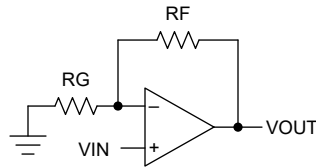
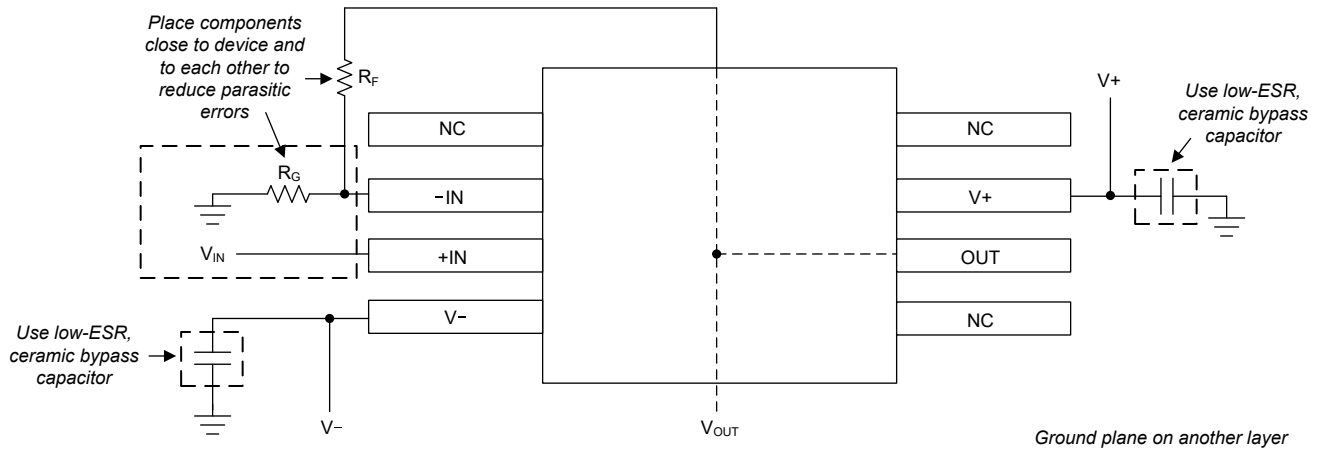

Figure 7-9. OPA627 Layout Example for the Noninverting Configuration (Schematic Representation)
Figure 7-10. OPA627 Layout Example for the Noninverting Configuration
- Place the external components as close to the device as possible. As shown in Figure 7-10, keeping RF and RG close to the inverting input minimizes parasitic capacitance.
| • Updated Figure 45, and moved to Figure 7-9 and Figure 7-10..... | 31 |